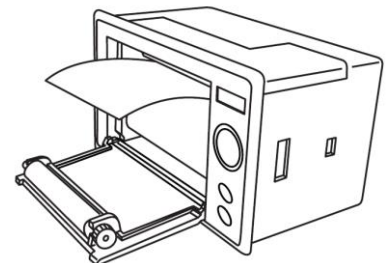

Fig.29-7
2. Take out the left paper roll, and install the new one as Fig.29-7.